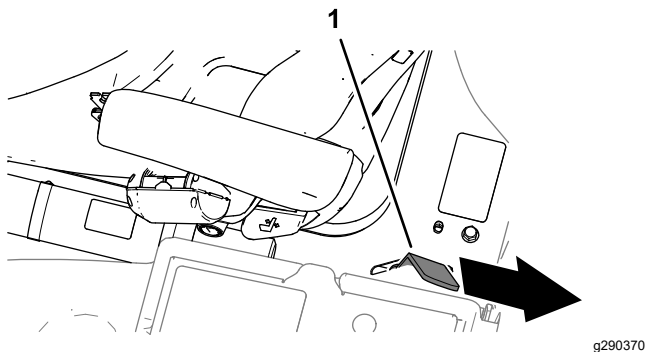

Figure 46
3. Fully lower the platform and move the platform-latch handle toward the rear of the machine until the latch hooks fully engage the locking bar (Figure 46).